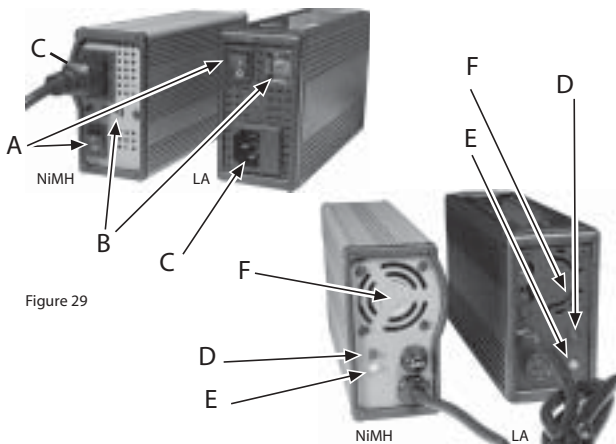

Figure 29
3. Be sure the charger switch is turned to O (OFF) (figure 29, A).
4. Be sure the charger voltage selector (figure 29, B) is set to the proper output (115V for U.S.A. and 230V for most European countries).
8. Turn the charger switch to I (ON) (figure 29, A). The red LED, The green / yellow or orange LED and the cooling fan (figure 29D, E & F) will turn on.
The two LED's (figure 29, D ... E) on the end of the charger provide important information.